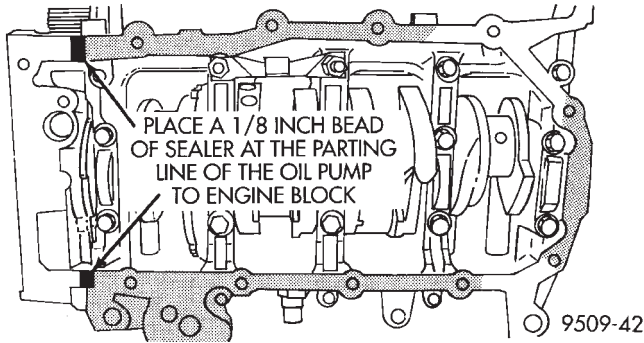

Fig. 67 Oil Pan Sealing
- (1) Apply Mopar® Silicone Rubber Adhesive Sealant or equivalent at the oil pump to engine block parting line (Fig. 67).
- (2) Install a new oil pan gasket to pan.
- (3) Install pan and tighten screws to 12 N·m (105 in. lbs.).